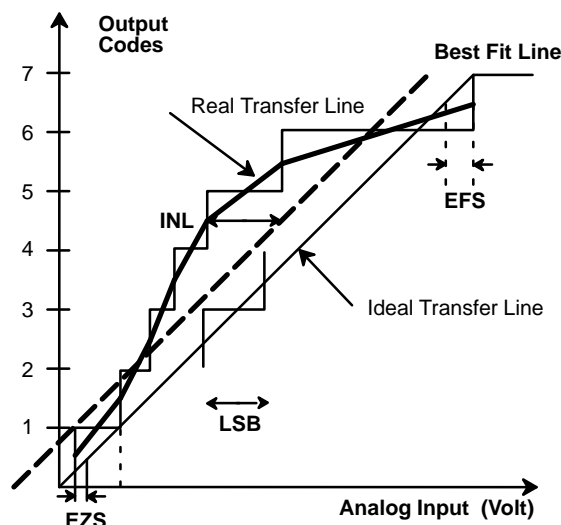

Figure 7. INL Error Calculation
- 2 Tester measures code transition voltages by dithering the voltage of the analog input ( $V_{IN}$ ). The difference between the measured code width and the ideal value ( $V_{REF}/1024$ ) is the DNL error (see NO TAG). The INL error is the maximum distance (in LSBs) from the best fit line to any transition voltage (See Figure 7.).
Figure 7. gives a visual definition of the INL error. The chart shows a 3-bit converter transfer curve with greatly exaggerated DNL errors to show the deviation of the real transfer curve from the ideal one.